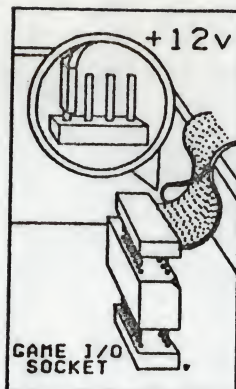

Fig 1 - Apple II
- 3 Install the Type 1 Interface module into the 16-pin connector (game paddle I/O) at the right rear corner of the computer main circuit board. Before you plug it in, check that the pins are straight and aligned with the socket, and make sure the white marker is toward the front of the computer (Figs 1 or 2).
- 4 Install the 16-pin plug on the Controller lead on top of the Interface module. Before you plug it in, check that the pins are straight and aligned with the sockets on the Interface. Orientate the cable as shown in Fig 1 or 2 below.
- 5 Identify the 4-pin auxiliary video connector on the main circuit board, and install the single wire breakout on the 12 volt pin, the position of this depends on the version of the computer you are using (Figs 1 or 2).